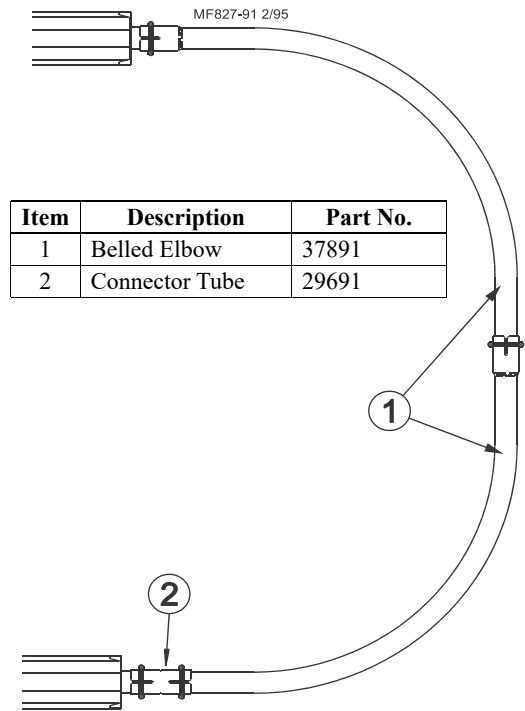

Figure 26. Commercial Layer Elbows
1. Insert the tube section of the End Cap into the belled end of a 90 degree elbow, as shown in **Figure 26** Use a U-bolt style clamp to secure this joint...however, do not fully tighten clamp until the elbows are fully installed and leveled.
5. Fasten the End Cap and trough to the second 90 degree elbow, using a coupler and (2) U-bolt style clamps to secure this joint. However, do not fully tighten clamps until the elbows are fully installed and leveled.